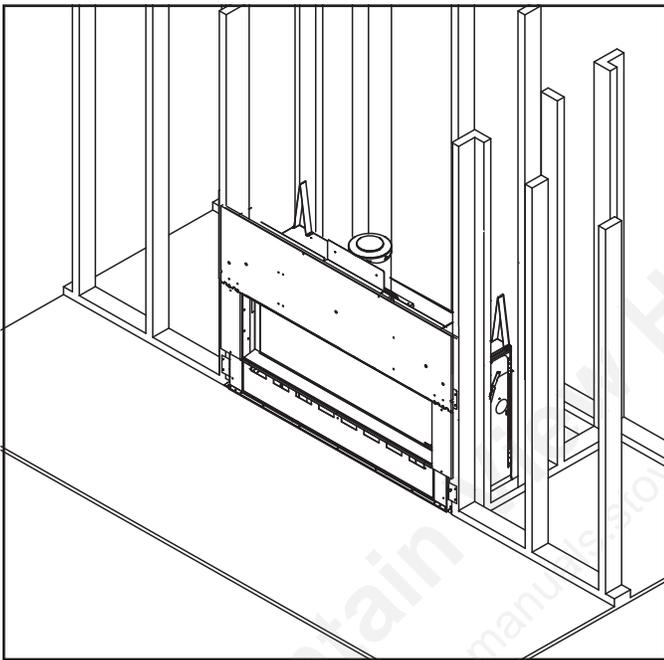

Figure 3.12 Floor Protection
**Note:** Figure 3.10 and Figure 3.11, and Figure 3.12 show the fireplace installed on the floor. However, this fireplace can be elevated off the floor provided that the fireplace is properly supported by framing materials and the ceiling clearances are maintained.